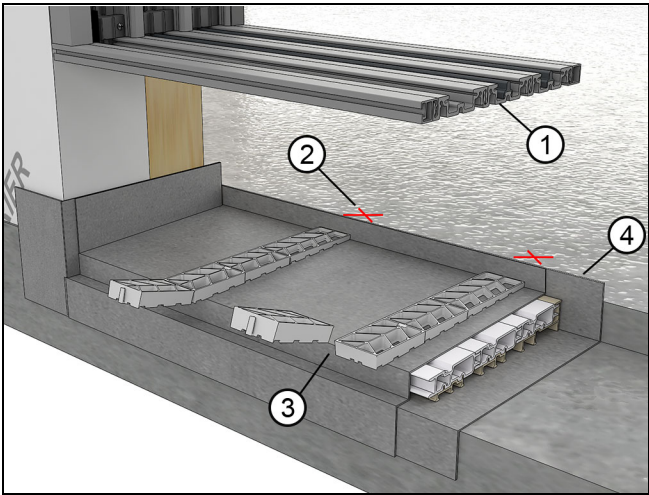

Figure 13 HP Sill (3 track shown)
2. If you have an odd number of sill tracks you will need to break off the exterior end of the counter-shim at the break line. See Figure 13.